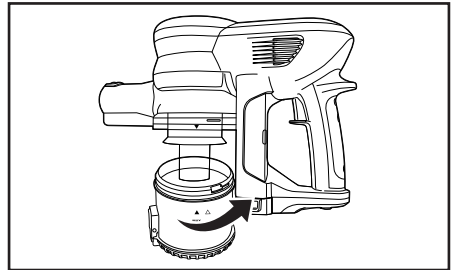

Fig. 3
1. Turn the dust cup counter-clockwise to line-up the arrows and remove from the main body (Fig. 3).